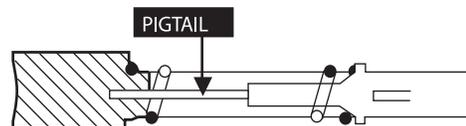

Figure 32: Brush Pigtail.
- b. If the brushes are excessively worn as to expose the pigtail (Figure 32), sparking will occur at the surface of the slip ring, causing surface damage. Therefore, periodic inspection of the brushes is important.